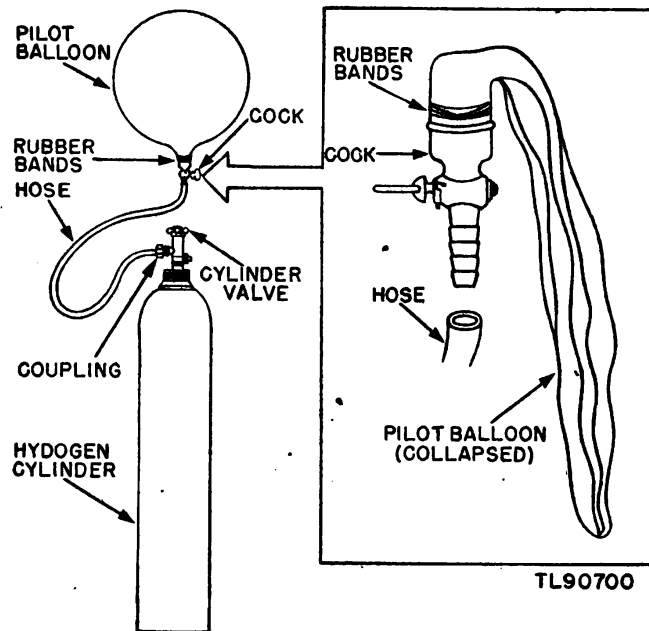

FIGURE 6. *Inflating pilot balloon.*
(1) *Inflating from cylinder filled with hydrogen (fig. 6).* (a) Open the valve on the hydrogen container, and allow a slow flow of